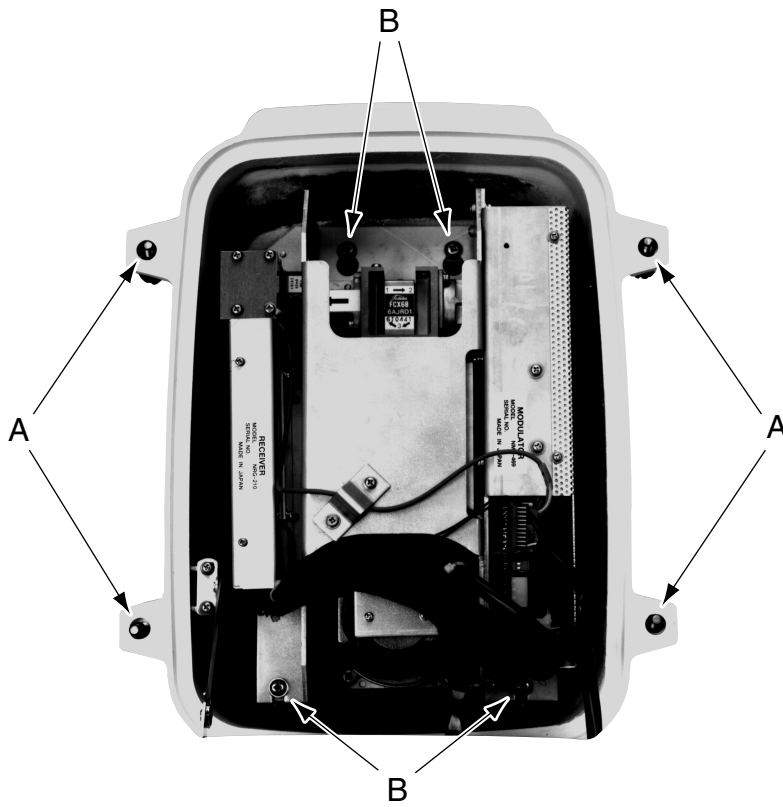
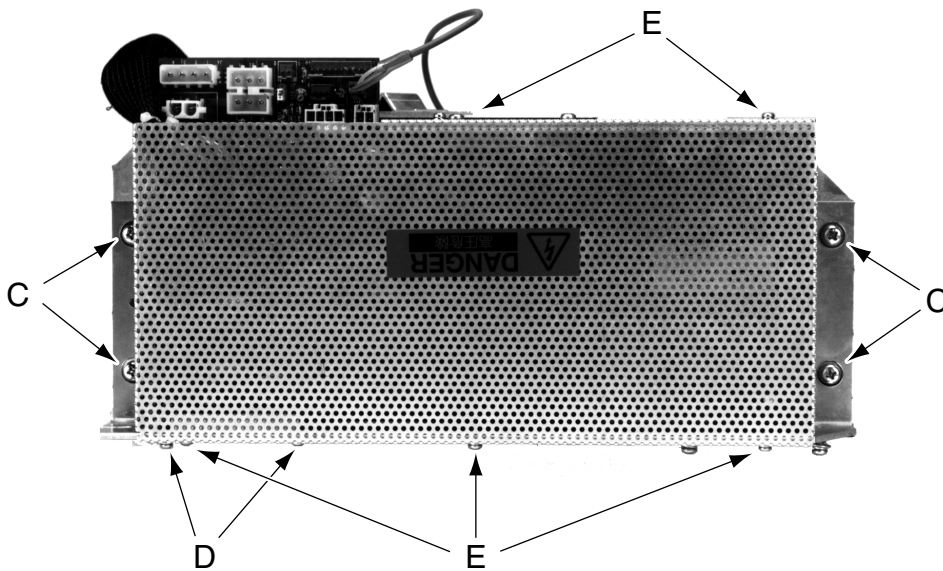

Fig. 8.1 Internal View of 10kW Scanner Unit NKE-1055
Fig. 8.2 Transmitter Unit of 10kW Scanner Unit NKE-1055
- (1) Loosen the four A scanner unit screws (see Fig. 8.1).
- (2) Lift the scanner unit to open the pedestal (see Fig. 8.1).
- (3) Loosen the four B screws fixing the transceiver unit (see Fig. 8.1).
- (4) Move the transceiver upward to remove it from the pedestal.
- (5) Remove the four C screws and loosen the two D screws to remove the sender from the transceiver (Fig. 8.2).
- (6) Loosen the five E sender screws to remove the sender cover (see Fig. 8.2).